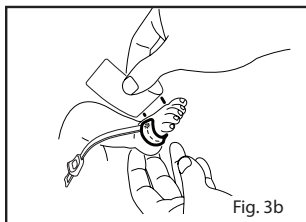

Fig. 3b
2. Refer to Fig. 3b. Wrap the adhesive/foam wrap around the foot (or hand) and ensure that the emitter window (※) aligns directly opposite of the detector. Be careful to maintain proper alignment of the detector and emitter windows while attaching adhesive/foam wrap to secure the sensor.